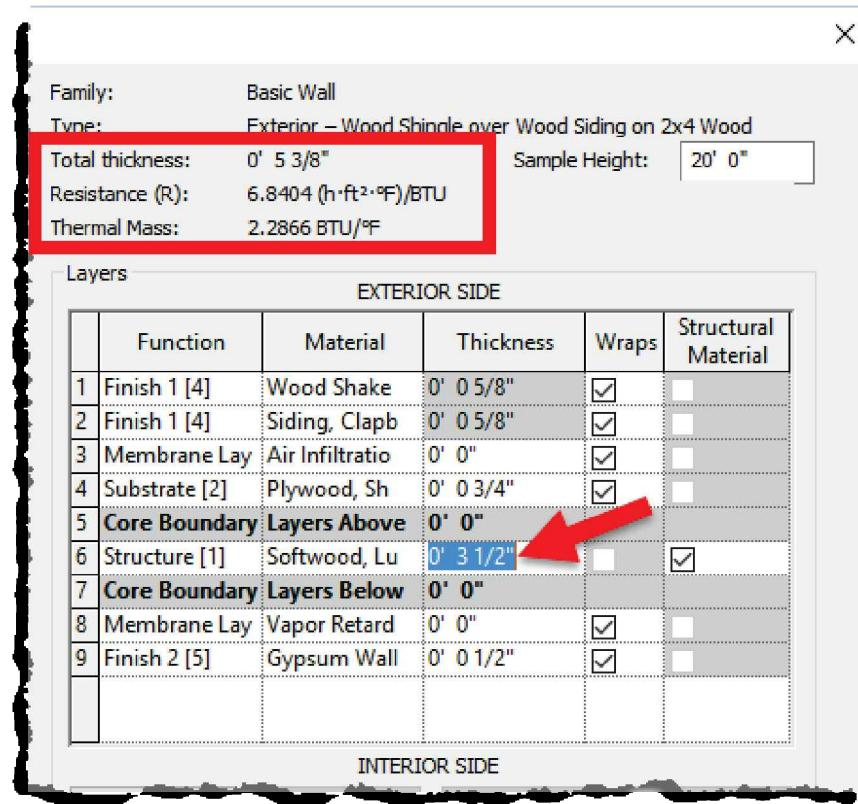

FIGURE 5-2.14 Edit Assembly; change stud size to 2x4
29. Your dialog should look like **Figure 5-2.14**. Notice the total wall thickness is listed near the top. Also note the *Total Thickness* and *R-Value* updated.